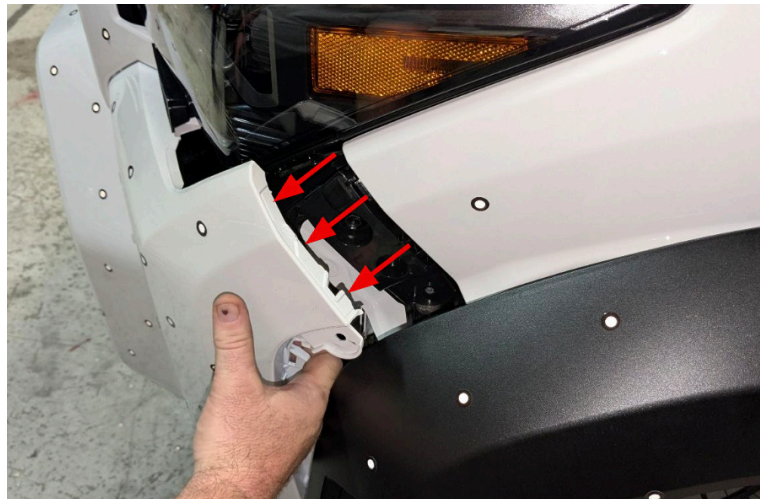

Figure 18
11. Pull the corners of the fascia outward away from the vehicle in order to release the clips along the fender. The fascia can now be removed from the vehicle by pulling outward along the rest of the fascia. (Figure 18)